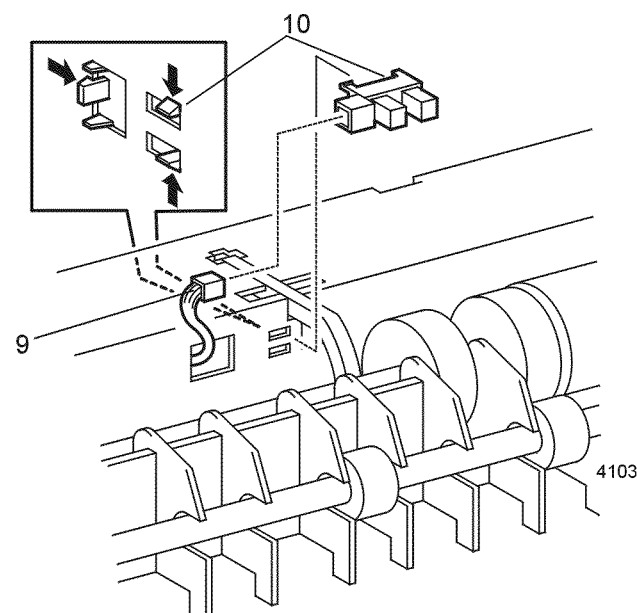

Figure 3 No Paper Sensor
9. Disconnect P/J134 from the No Paper Sensor (Figure 3)
10. Release the three locking tabs and remove the sensor (Figure 3).